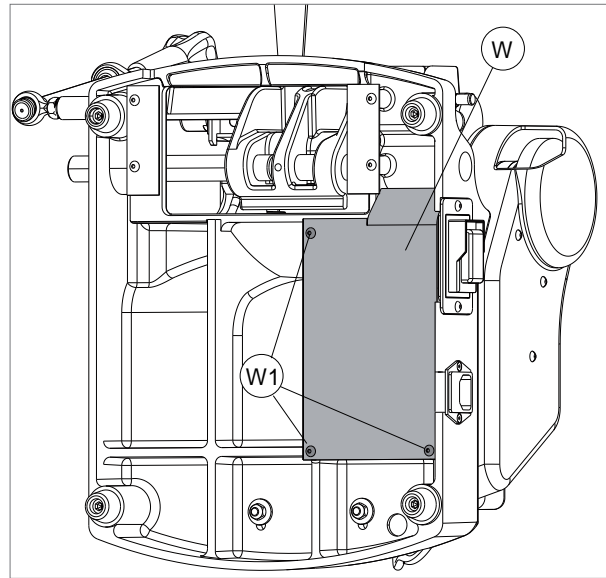

Fig. 40
- 4) Loosen the 3 screws (W1) and remove the plate (W) (Fig. 40).